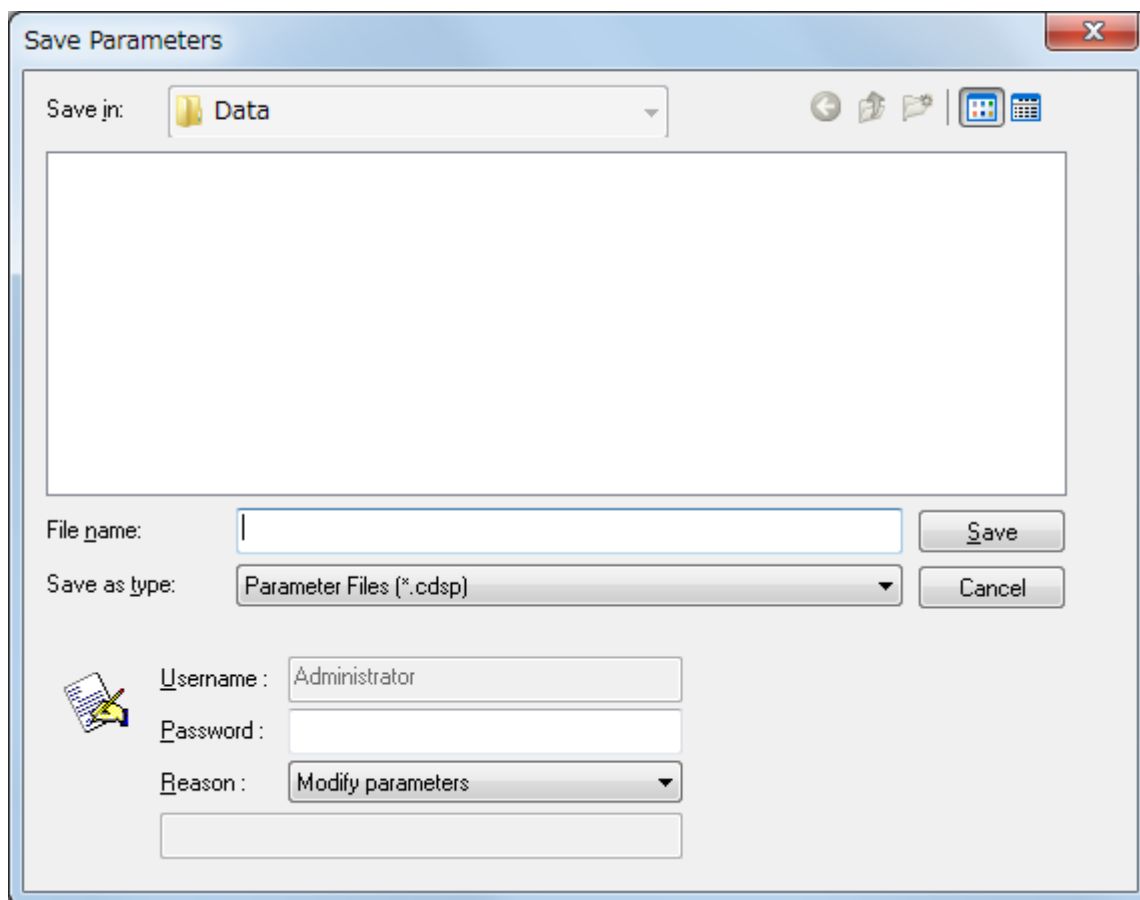

Figure 5.7 [Save Parameters] dialog box
- (7) In the CFR version, always save changes to the parameters. Click the <Save...> button to display the dialog box in Fig. 5.7.